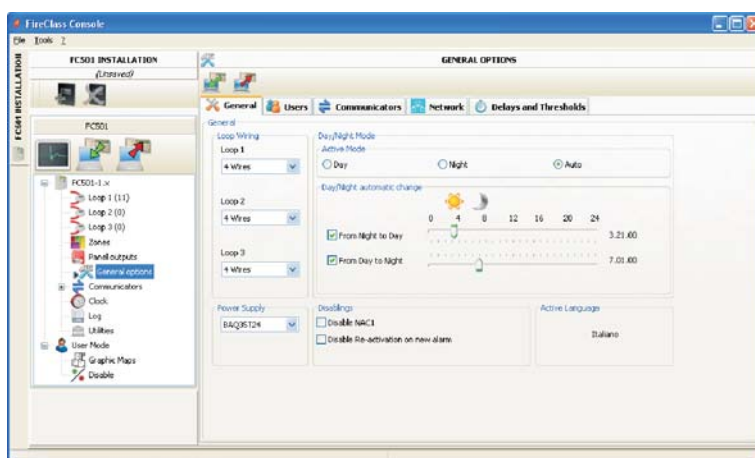

Figure 27 General Options window
The Panel parameters can be programmed through the **General Options** page (see Figure 27).
**PSTN interface** The PSTN interface section is activated, after the PSTN Telecom interface has been enabled on the **General Options** page (**Figure 27**).
**IP interface** The **IP interface** section is active after the module FC500IP has been enabled in the **General Options** page (Figure 27). The IP module programming is in 3 sections: **OPTIONS**, **ADDRESS BOOK** and **ADVANCED**.